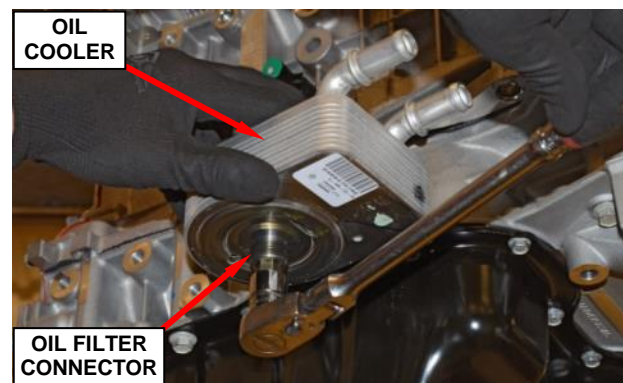

Figure 99 – Oil Filter Connector
- b. Remove the engine oil filter connector (Figure 99).
- c. Remove the engine oil cooler (Figure 99).